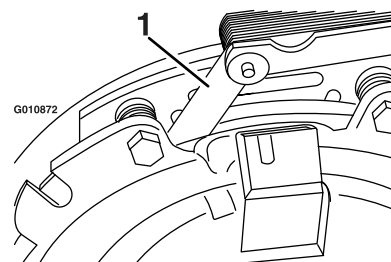
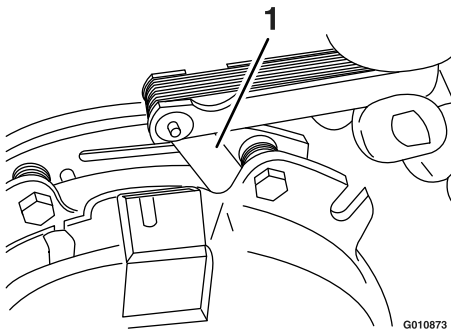

Figure 80
Figure 81
- E. Using a 0.25 mm (0.01 inch) thick feeler gauge, verify that a gap is present between the rotor and the armature face on both sides of the brake pole as shown in Figure 80 and Figure 81.